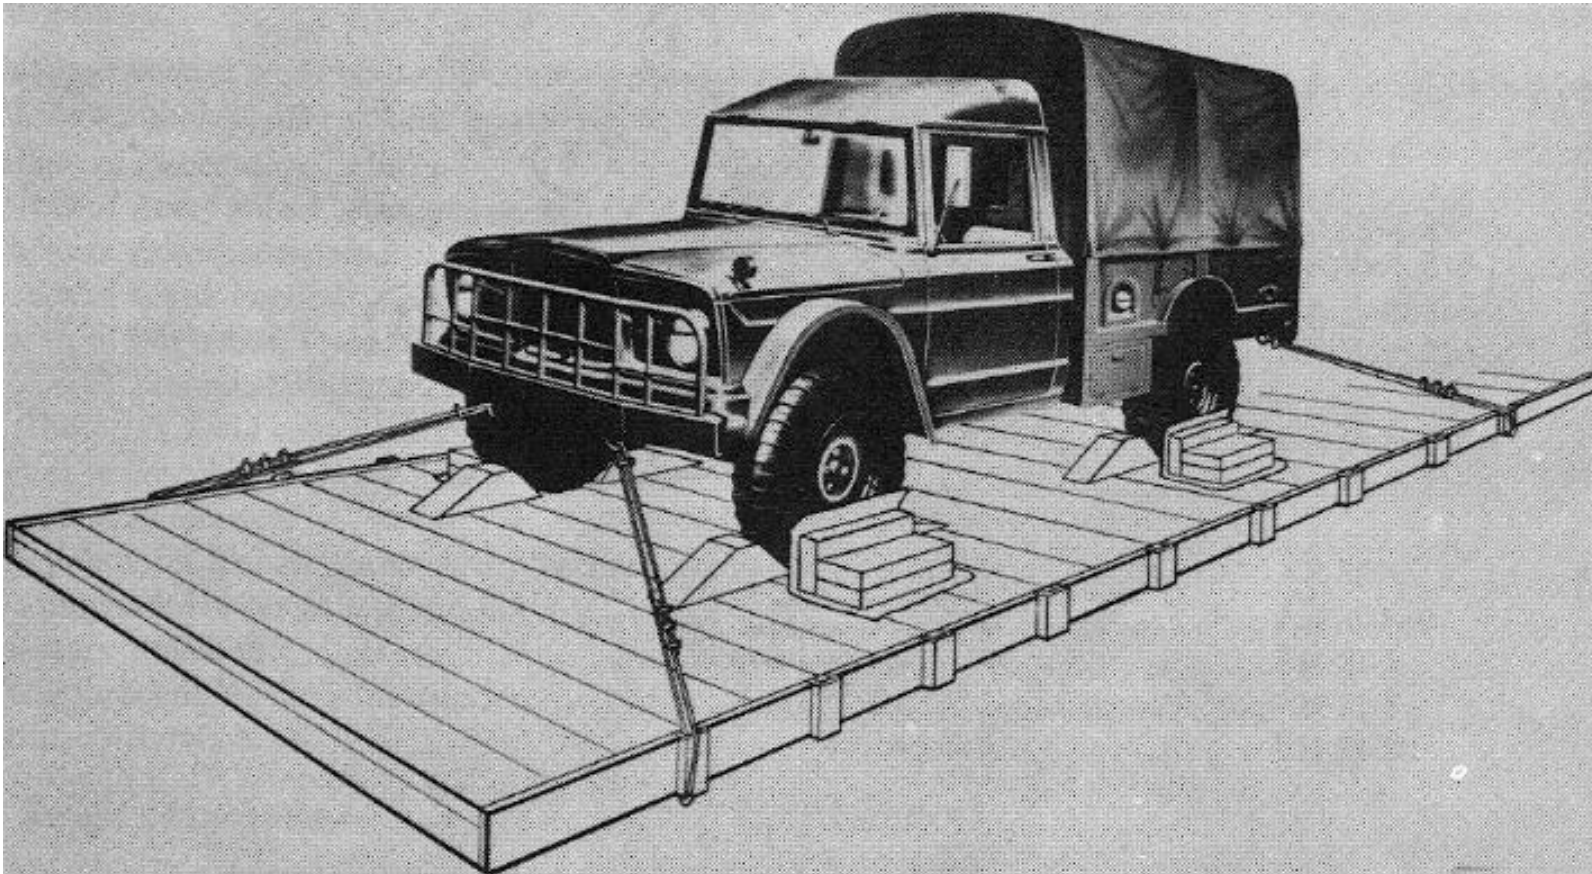

Figure 4-1a. Vehicle position on flatcar.
- (1) Brake wheel clearance. Load vehicle on flat-car with minimum clearance of 12-inches from the flatcar brake wheel. Brake wheel clearance should be increased as much as it is consistent with proper location of load. The vehicle must be positioned on the flatcar with the wheels centrally located between the stake pockets, to provide uniform positioning of the tie down cables. Refer to Figure 4-1a and 4-1b.